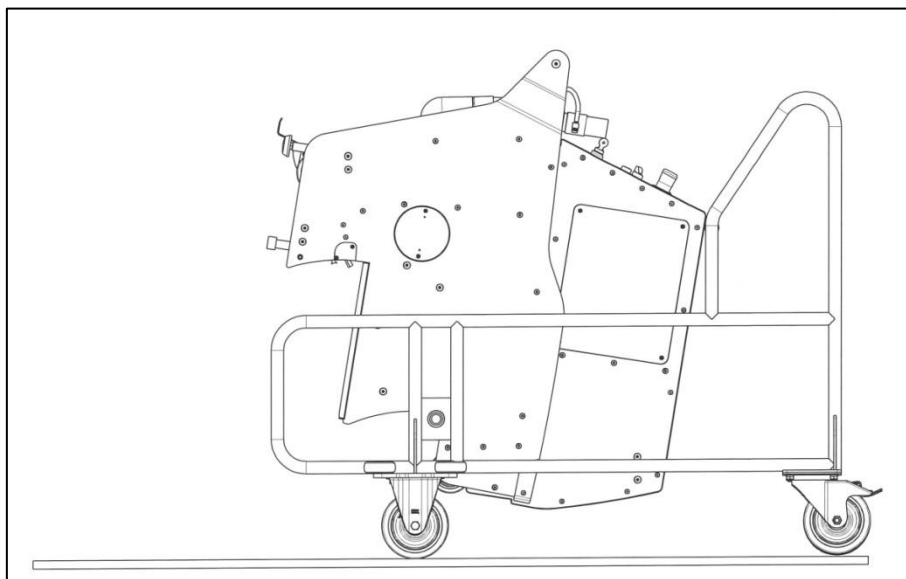

Figure 18 Machine in maintenance position
In this way maintenance and cleaning work can be carried out easily and quickly (see Fig. 18: Machine in maintenance position).
- Remove suction basin (32) and stripping brush (33) and rinse (Fig. 18: Seal strip)
- Check seal strip (34) and renew if necessary (Fig. 18: Seal strip).